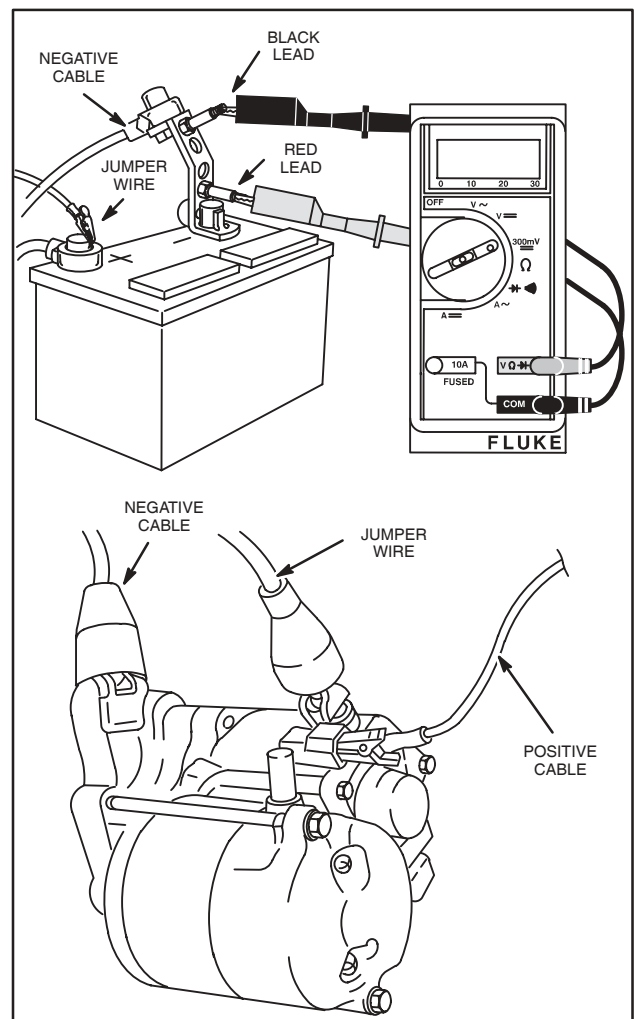

Fig. 49 – No Load Starter Current Draw Test
The DC Shunt **must** be installed on the **negative** (-) terminal of the battery, Fig. 49.
5. Attach one end of jumper wire to solenoid tab terminal, Fig. 49.
6. Activate starter by contacting positive battery terminal with other end of jumper wire, Fig. 49.